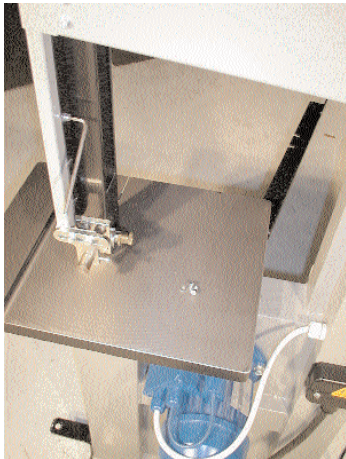

Fig. 20
2. Remove the guard as shown in Figs 20 & 21.